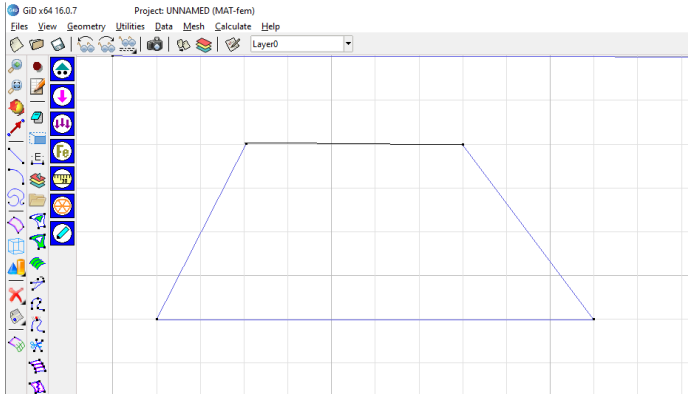
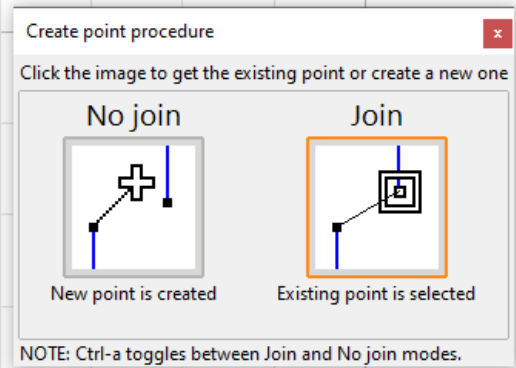

Fig. 17 - Draw geometry.
Fig. 18 - Join last and first point.
Figs. 17 to 28 show the steps to generate a structured mesh with 4 elements across the horizontal lines and 8 elements across the vertical lines of a trapezoidal geometry.
1. Use the line tool to draw a trapezoidal shape like shown in Fig. 17. When clicking the last point on the last edge the **Create point procedure** window will appear (Fig. 18); click on **Join** to make sure the geometry will be closed. Press **Esc** to exit the line tool.